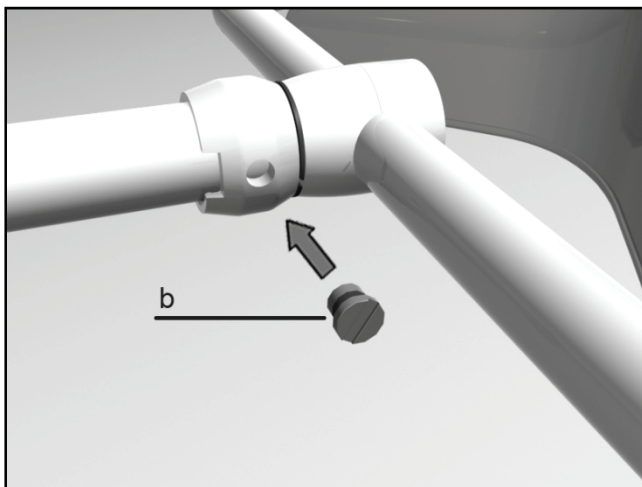

Figure 6
- Thread the brake screw (b) into the collar as shown in figure 6 and tighten it until the rotating joint has the desired friction.